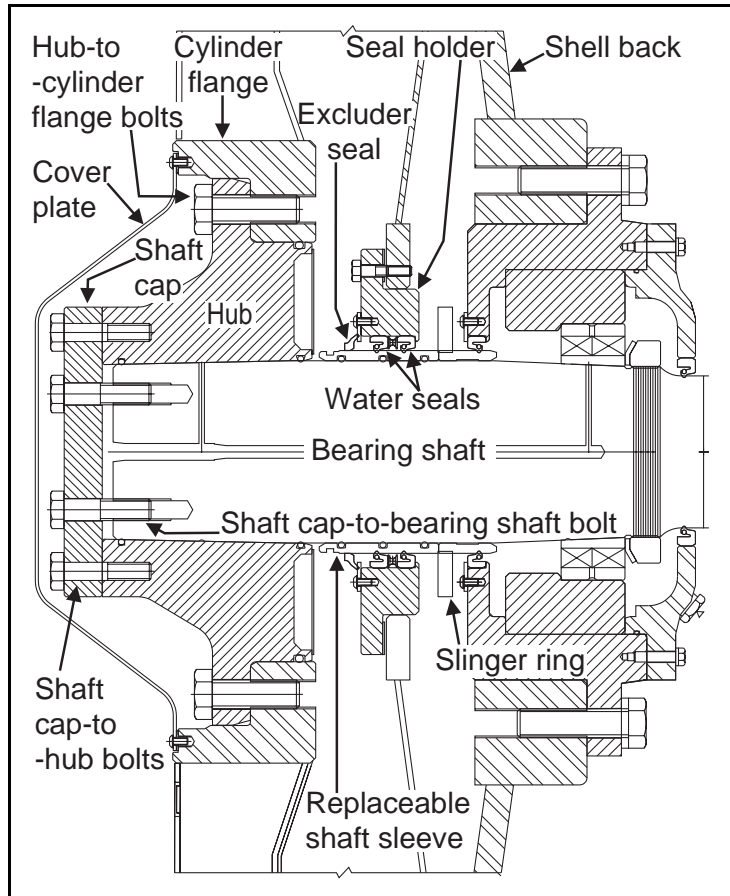
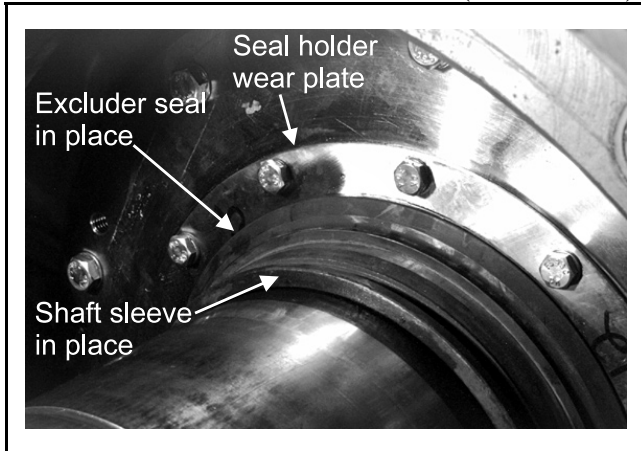

FIGURE 1 (MSSM0275AE)
FIGURE 9 (MSSM0275AE)
Preparations—Have the following items on hand before replacing water seals: seal removal kit KFBBSL72J2, and either Buna-N seal kit KFBBSH72J2 or Viton seal kit KFBBSV72J2. This procedure only covers replacing water seals; see MSSMA430AE for bearing removal information. Before beginning, study FIGURE 1 and read through this procedure in order to become familiar with the main bearing components and the seal replacement process.
3. Remove cover plate in the center of the cylinder (FIGURE 1).
1. With the hub supported in place by the *guide pins*, remove and discard the *excluder seal* (FIGURES 9 and 10).
1. Clean the bearing shaft. Install the *o-rings* (FIGURE 14) in the new *shaft sleeve*, and the new *water seals* in the *seal holder* (FIGURE 1). If installing a new seal holder wear plate (FIGURE 9), completely coat the underside of the new wear plate liberally with silicon or a similar type gasket material, to ensure that air from the injection system does not leak from the back of the wear plate. Coat the *o-rings* and *water seals* with grease.
2. Install the new *excluder seal* flush against the *seal holder* as shown in FIGURE 9. Using Loctite[®] 404 (or a similar cyanoacrylate based adhesive), tack the base of the *excluder seal* to the *shaft sleeve* in four places.